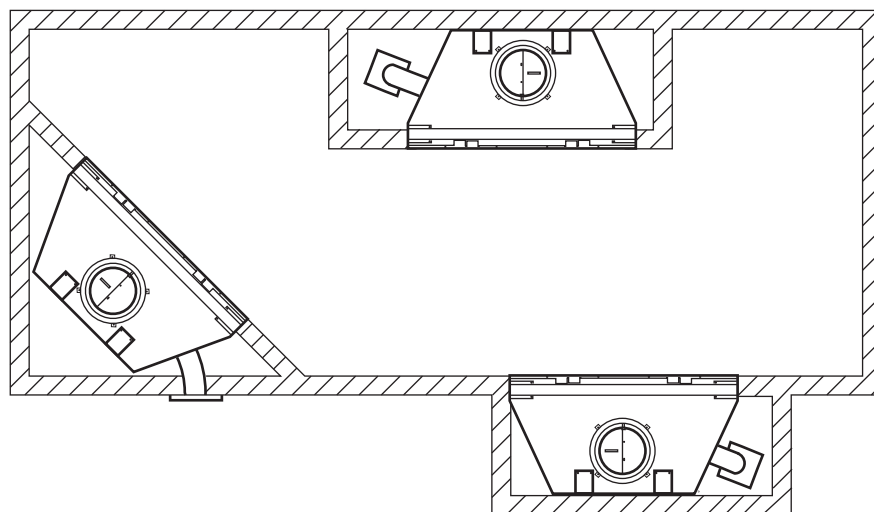

Figure 6 - Suggested Fireplace Locations
- This fireplace may be installed along a wall, across a corner, or use an exterior chase. *See Figure 6 for suggested locations.*